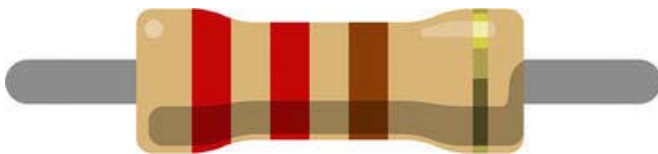

Figure 3-4. 220Ω +- 5% carbon-compound resistor
You might wonder from which end of the resistor you should read the colored bands. If you look closely you can see that one band has a slightly bigger distance to the other ones. This is the tolerance band. Figure 3-4 shows a 4-band carbon-compound 220 Ω resistor with a +- 5% tolerance. The first band is red (2), the second band is red (2), and the multiplier band is brown (10), which translates to $22 \times 10\Omega = 220\Omega$. The tolerance band is gold (+- 5%).